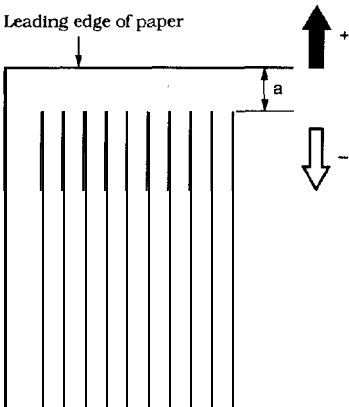

Figure 6-6
- 3) Measure the distance (a) from the leading edge of each sheet to the pattern. (See Figure 6-6) Take the average of the measured distances.